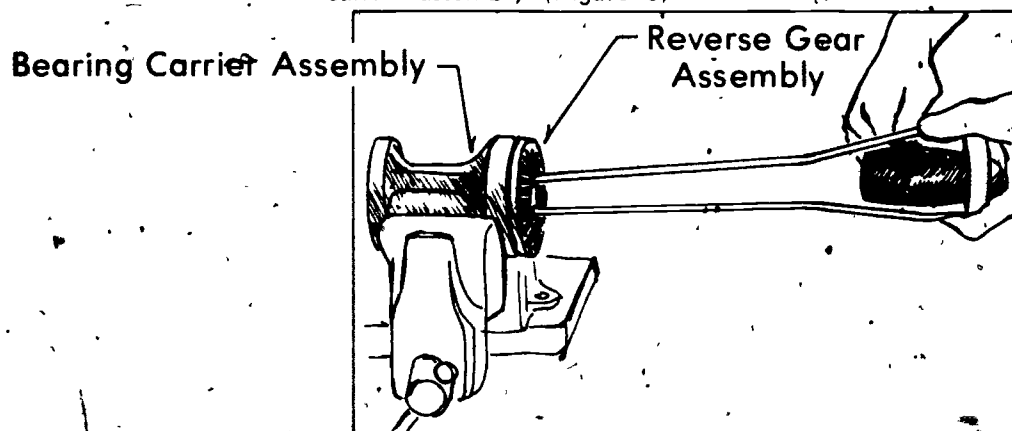

FIGURE 6
11. Remove reverse gear assembly and ball bearing from bearing carrier assembly (Figure 6)